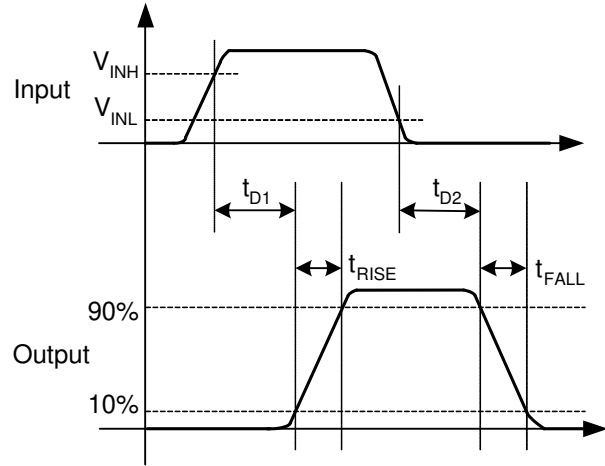
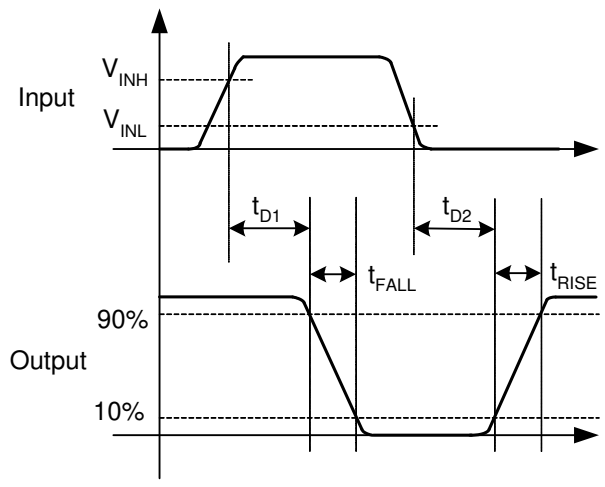

Figure 8. Non-Inverting (EN HIGH or Floating)
Figure 9. Inverting (EN HIGH or Floating)
14. See Timing Diagrams of Figure 8 and Figure 9.